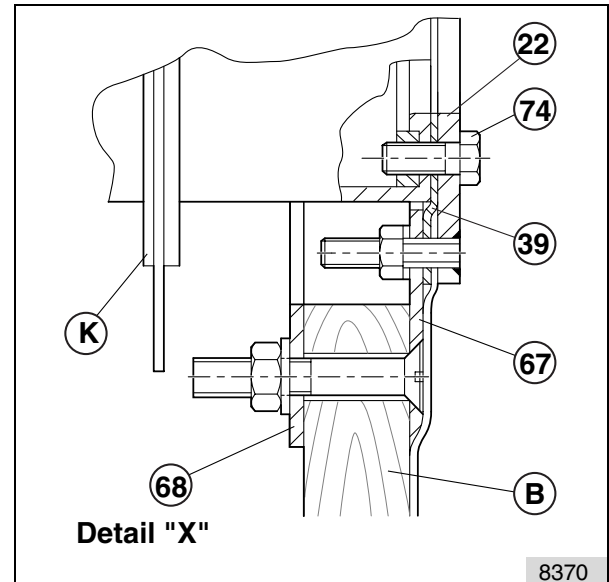

fig. 18: Detail X
Hang in the liner (L). Fasten the liner (L) and the clamp gasket (39) together with the clamp ring (22) and cut out the liner (L). Then mount the installation kit (92) on the clamp ring (22) with the screws (74). See also detail X in fig. 18.